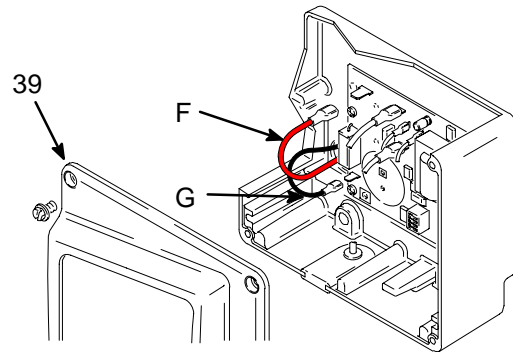

Fig. 1
2. Fig. 1. Remove pressure control cover (39). Disconnect motor leads (F) and (G).